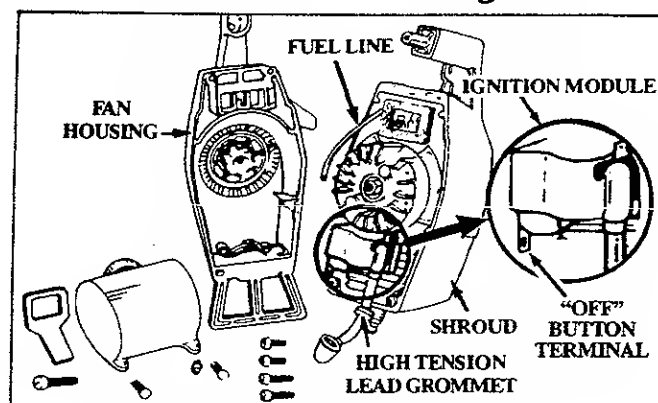

Figure 24
6. Slide high tension lead grommet from slot in fan housing. Figure 24.
7. Separate fuel line leaving the connector in the end attached to the fuel tank. Figure 24.
8. Separate the fan housing completely from the shroud. Figure 24.
CAUTION: Before replacing the fan housing, make certain that the "off" button terminal on the ignition module is not bent. See insert, Figure 24.
24. Position the "off" button terminal as shown. Figure 24.
26. If the engine will not stop, move choke to the "On" position (Figure 8) to stop engine. Disassemble fan housing and be sure the "off" button terminal (Figure 24) is in the correct position. Reassemble parts.